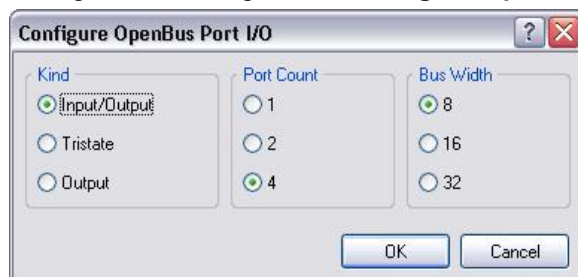

Figure 80. Configuring the Port IO
2. Configure the settings in the **Configure OpenBus Port I/O** as they appear in Figure 80.